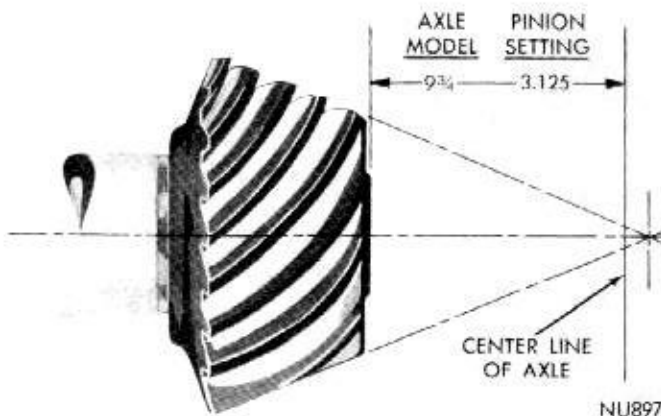

Fig. 40—Pinion Setting Dimension
(10) Figure 40 shows the nominal pinion setting dimensions for 0 (zero) marked pinion. Pinions with a + or — marking require a different pinion setting. For example, if a pinion marked +2 is being installed in a 9-3/4" axle, add the +2 to pinion setting dimensions 3.125 which will be the corrected dimension of